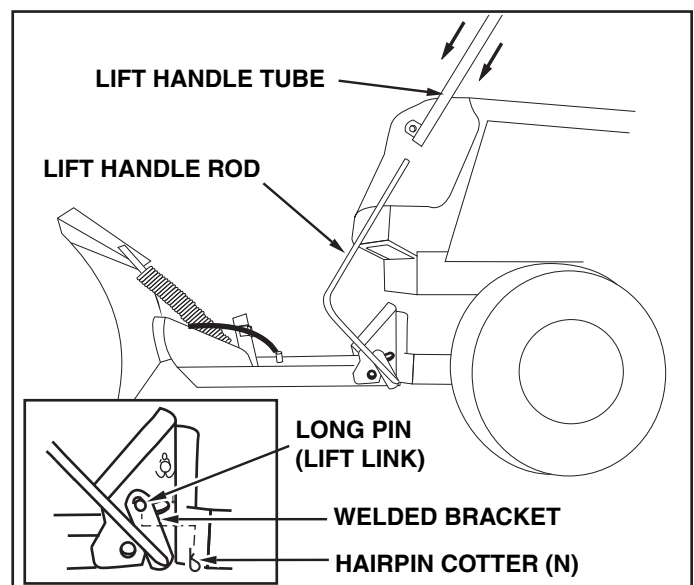

FIGURE 16 (Left Hand Side View)
30. From the left side, insert the welded end of the lift handle rod through the hole in the end of the channel assembly (Figure 16). Next, insert the lift link pin through the hole in the bracket that is welded to the lift handle rod. (The lift link is pre-assembled to the pivot support assembly). Secure the bracket with a hairpin cotter (N) inserted up through the lift link pin.
7. Remove the hairpin cotter which fastens the lift handle rod to the lift link pin. See figure 16, page 8.